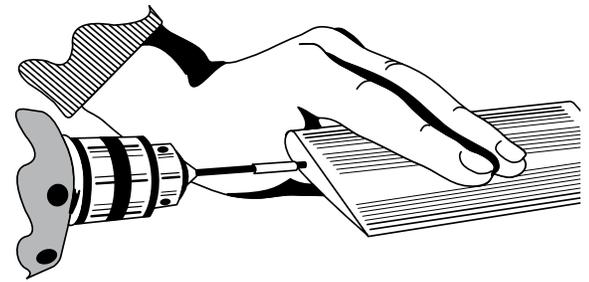

Figure 14
5. Very carefully drill into the wing edge (Figure 14). Drill slowly and straight so that the drill rod does not exit the wing surface. When the masking tape contacts the wing edge, stop drilling.